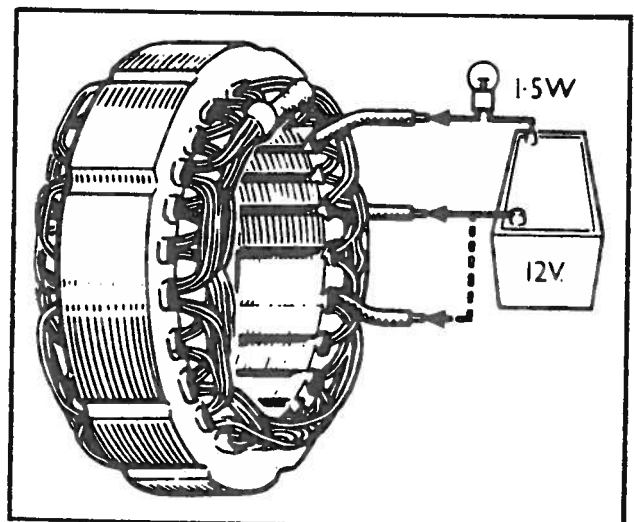

Fig. 19—Stator Winding Continuity Test
1. Unsolder the three stator cables from the heat sink assembly, taking care not to overheat the diodes—(refer to “Heat Sink Replacement”). Check the continuity of the stator windings by first connecting any two of the three stator cables in series with a test lamp of not less than 36 watt and a 12-volt battery as shown in Fig. 19. Repeat the test, replacing one of the two cables by the third cable. Failure of the test lamp to light on either occasion means that part of the stator winding is open-circuit and a replacement stator must be fitted.